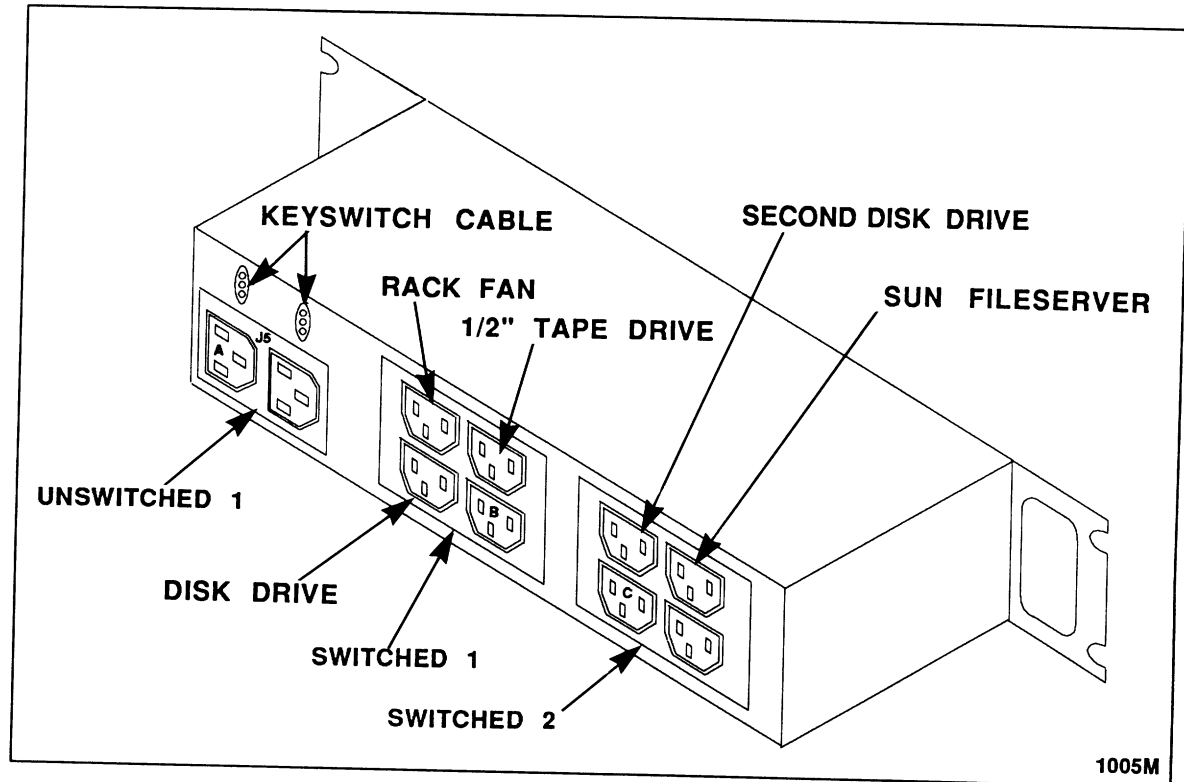
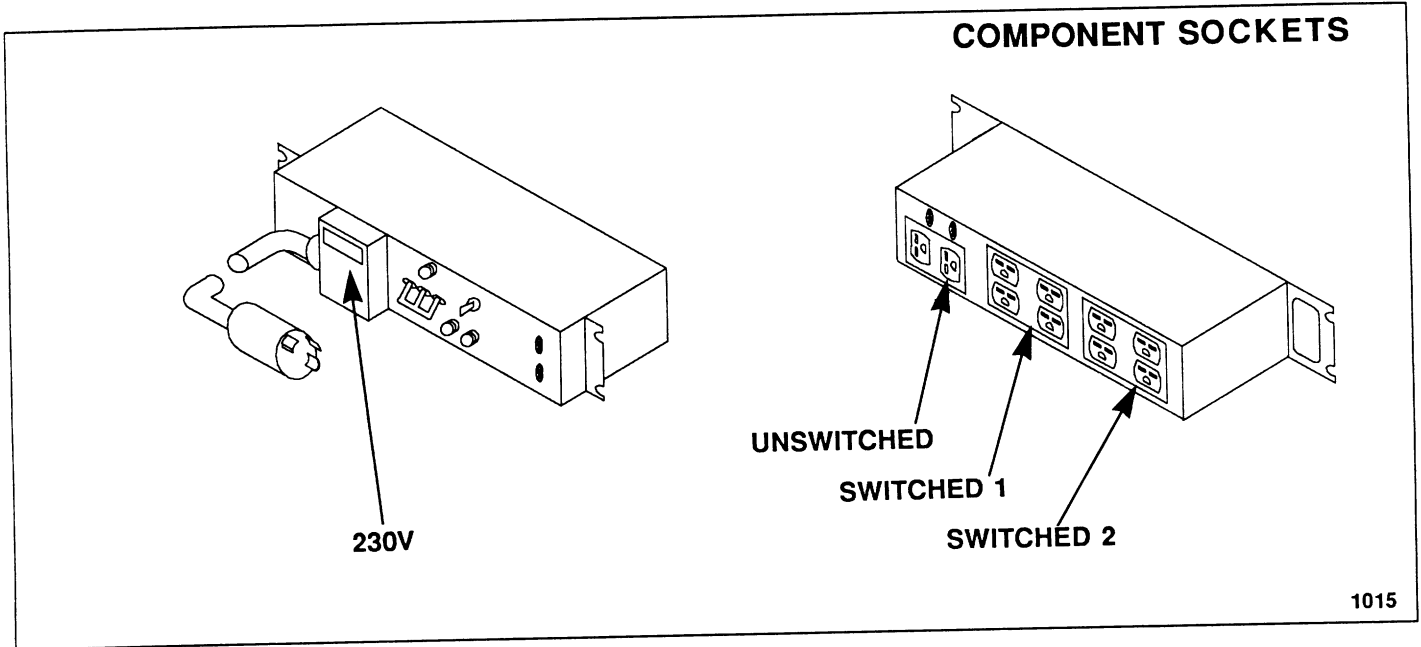

Figure 2-5 Connections to the 115V Power Supply
Figure 2-6 Connections to the 230V Power Controller
8. Route the AC power cord from the fileserver, down the righthand RETMA rail, as viewed from the rear of the rack. Connect the AC cord to the power controller outlet as shown in figure 2-5.
Figure 2-5 illustrates the correct arrangement of equipment connections for a 115V power controller. Figures 2-6 and 2-7 illustrate the correct connections for